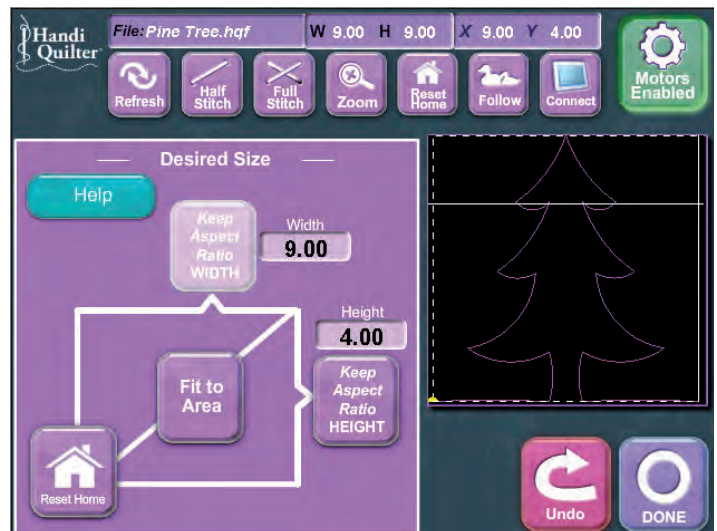

Figure 14
4. The same can be done with the width by entering a desired width and using the “Keep Aspect Width” button (Figure 14).